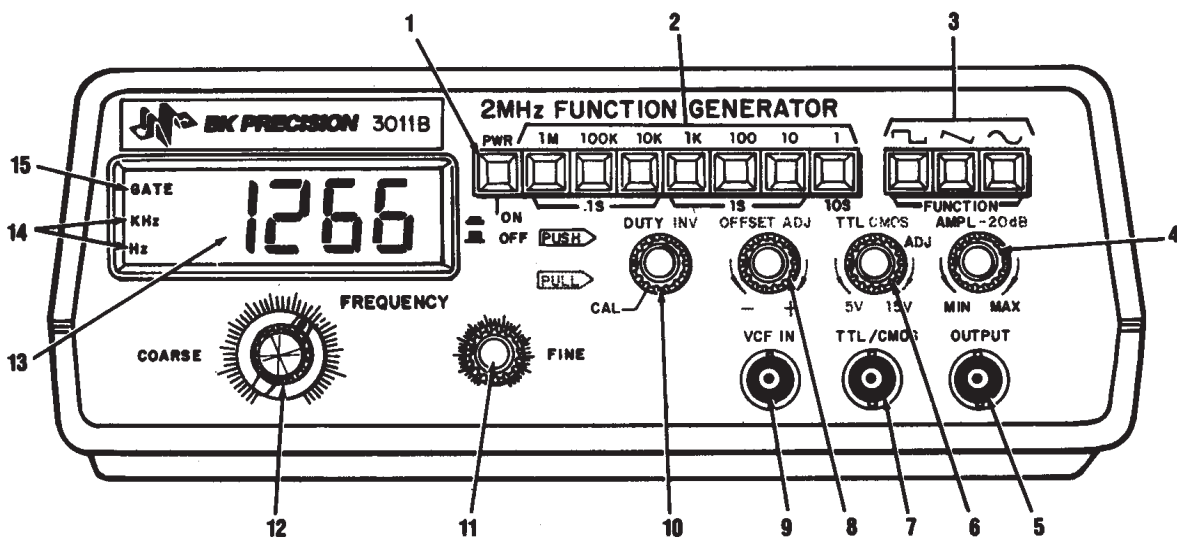

Fig. 5 The front panel of the function generator, with controls marked.
Figure 5 shows the control panel of the function generator most often used in this lab. The instrument is turned on with the power switch, item (1) in the figure. A sine, square or triangle waveform is selected with the buttons labeled FUNCTION (3). The frequency range is determined by pushbuttons (2), and the exact frequency is then set using the coarse and fine FREQUENCY knobs (12, 11). The output amplitude is determined by the AMPL knob (4). Pulling gently on the AMPL knob decreases the output amplitude by a factor of 10. The display (13) shows the output frequency numerically in Hz or kHz, according to the indicator (14) and decimal point on the display. The selected output appears as a voltage at OUTPUT (5). The other controls and outputs are more specialized, and will not be used here.